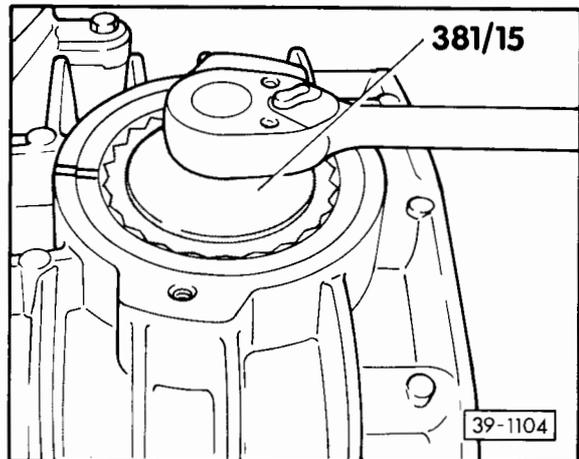

Fig. 4 Removing adjusting rings
- Removing – Fig. 4
- Mark before removing – Fig. 4